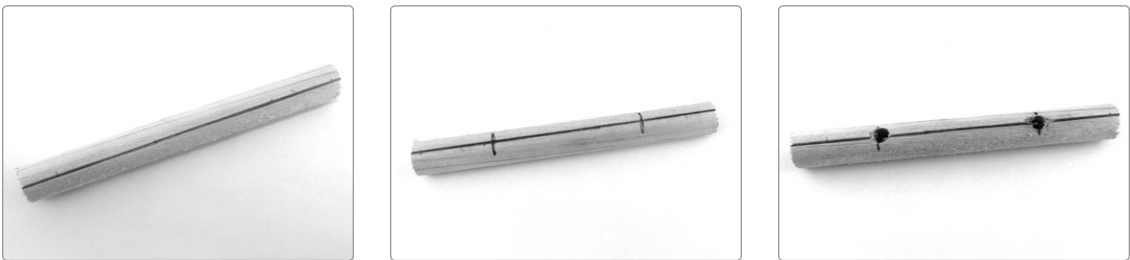

FIGURE 11-5: *Preparing the bridge*
Step 2 Prepare the bridge. This is a 4-inch length of 7/16-inch dowel with two 3/16-inch holes, 1 inch from either end of the dowel. (If that string of numbers makes you dizzy, then a quick look at the far-right image in Figure 11-5 will likely clear your head). Take your 4-inch dowel and draw a centered guideline down its length, as in the far-left image of Figure 11-5. Measure 1 inch in from each end and mark your drill holes, as in the middle image of Figure 11-5. Finally, drill those holes.